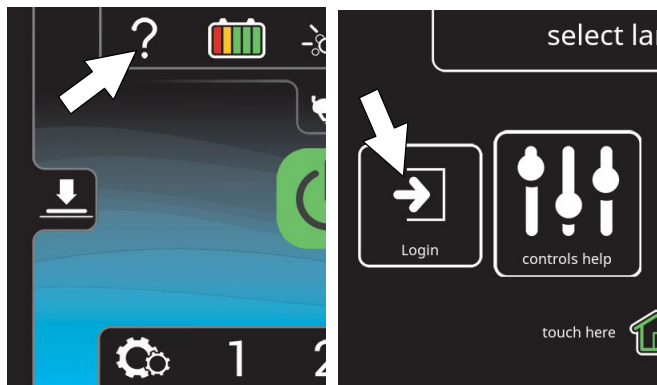

FIG. 176
2. Press the help button and log into the machine as supervisor mode (Figure 176). See *Entering the Supervisor Mode*.